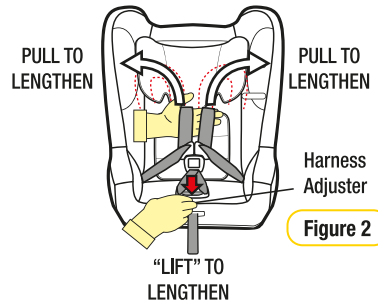

Figure 2
Step 2: To lengthen the harness “LIFT” the harness adjuster (refer Figure 2) whilst grasping both shoulder harness straps and pulling. Ensure shoulder straps are pulled equally on each side.